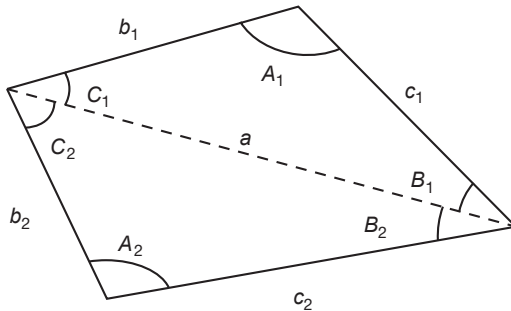

Figure P26
26. The four-sided figure shown in Figure P26 consists of two triangles having a common side a . The law of cosines for the top triangle states that